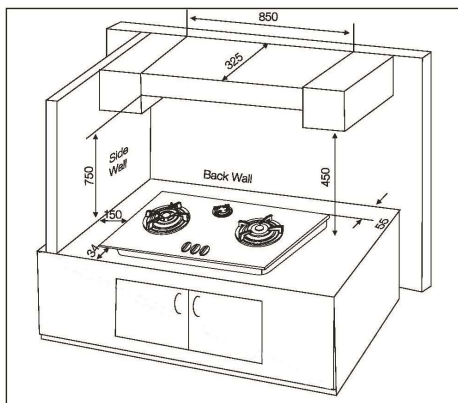

Fig. 6 (in mm)
- When fitting a vent hood above the hob, refer to the manufacturer own installations relating to that product. However as a general rule, a minimum clear vertical distance of 750mm (30") should be maintained between the cooktop and the underside of any cupboard, wall unit or vent. (Fig 6)
- Any cabinet installed above the cooktop must not be greater than 325mm (13") deep. (Fig 6)
distance of 55mm from the rear wall. (Fig 6)